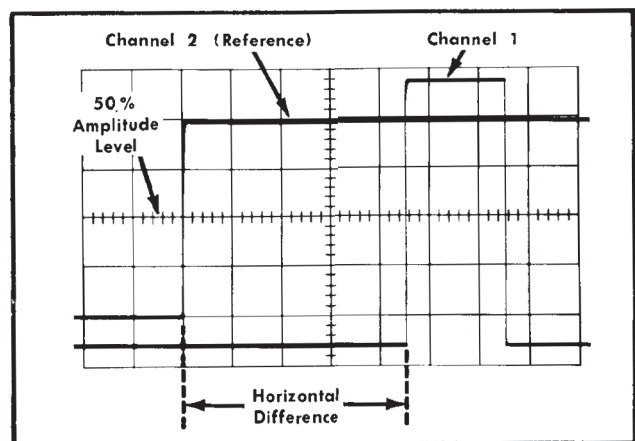

Fig. 2-7. Measuring time difference between two pulses.
11. Measure the horizontal difference between the Channel 1 waveform and the Channel 2 waveform (see Fig. 2-7).
Example. Assume that the time-base sweep rate is 50 microseconds/division, the magnification is $\times 10$ and the horizontal difference between waveforms is 4.5 divisions (see Fig. 2-7).